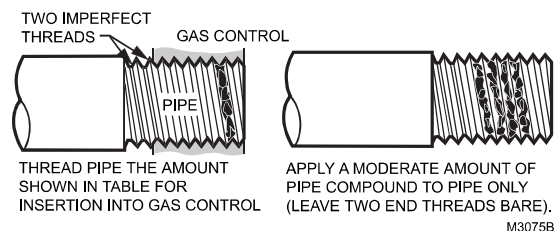

Fig. 1. Use moderate amount of pipe compound.
2. Apply moderate amount of good quality pipe compound to bushing, leaving two end threads bare. See Fig. 1.
4. Apply a moderate amount of good quality pipe compound (do not use Teflon tape) to pipe only, leaving two end threads bare. See Fig. 1. On LP installations, use compound resistant to LP gas.